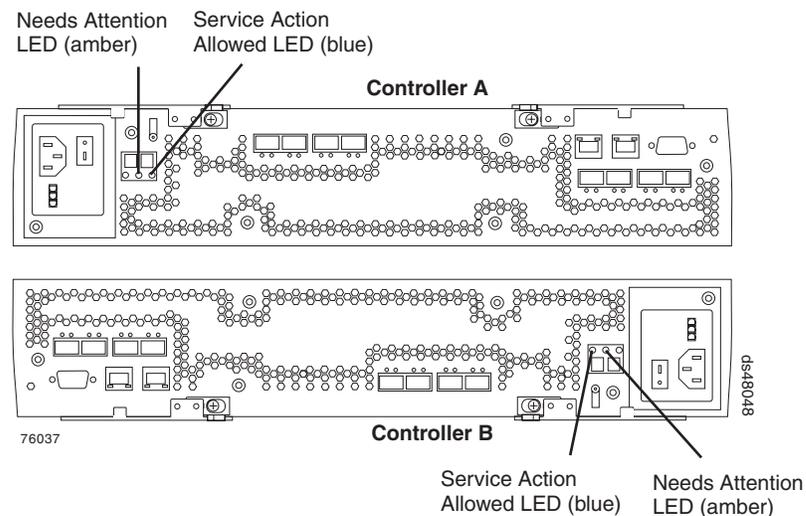

Figure 73. RAID controller Needs Attention and Service Action Allowed LEDs
2. Locate the failed controller by checking the Needs Attention status LEDs on the controllers in the storage subsystem. (Figure 73 shows the location of the Needs Attention LED on the back of a controller.)
3. Is the Service Action Allowed status LED turned on? (Figure 73 shows the location of the Service Action Allowed status LED on the back of a controller.)